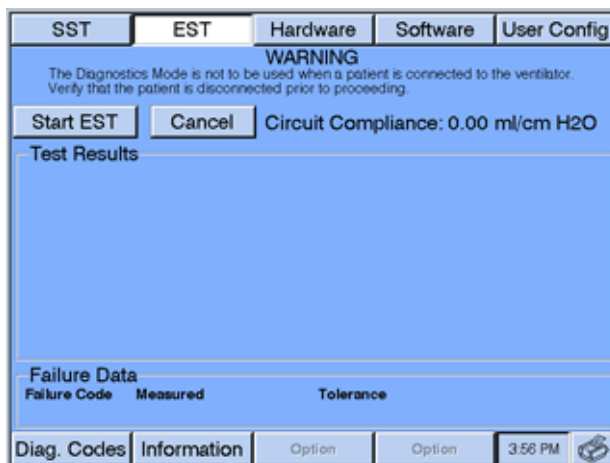

Figure 5-5: Starting EST
3. Touch **EST** on the diagnostic screen (Figure 5-5).